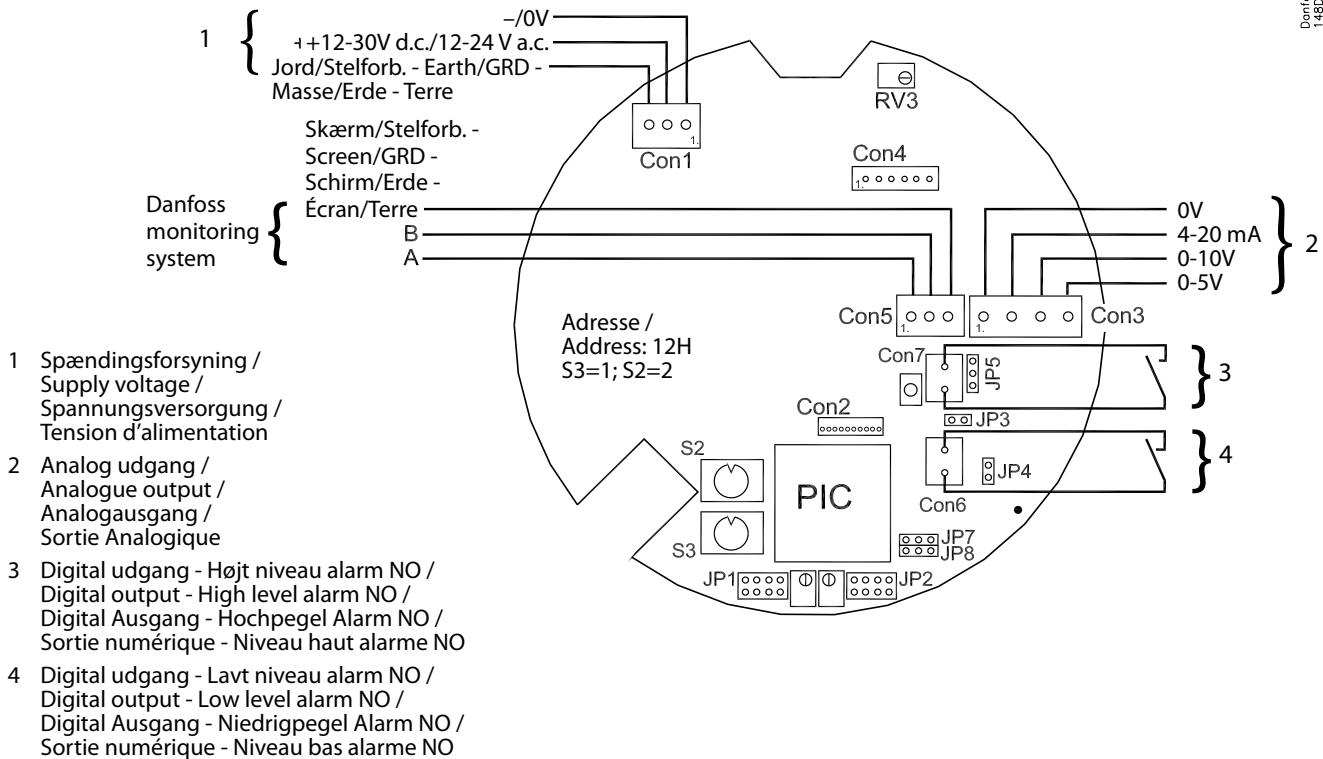

fig. 5
**Electrical installation (fig. 5 and 6)**